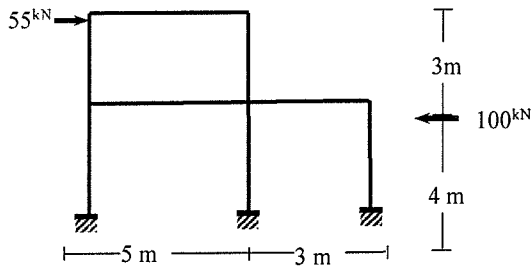

Figure 5
5. Analyze the frame shown in **Figure 5** by Cantilever Method to draw the Shear Force and Bending Moment diagrams. [10]